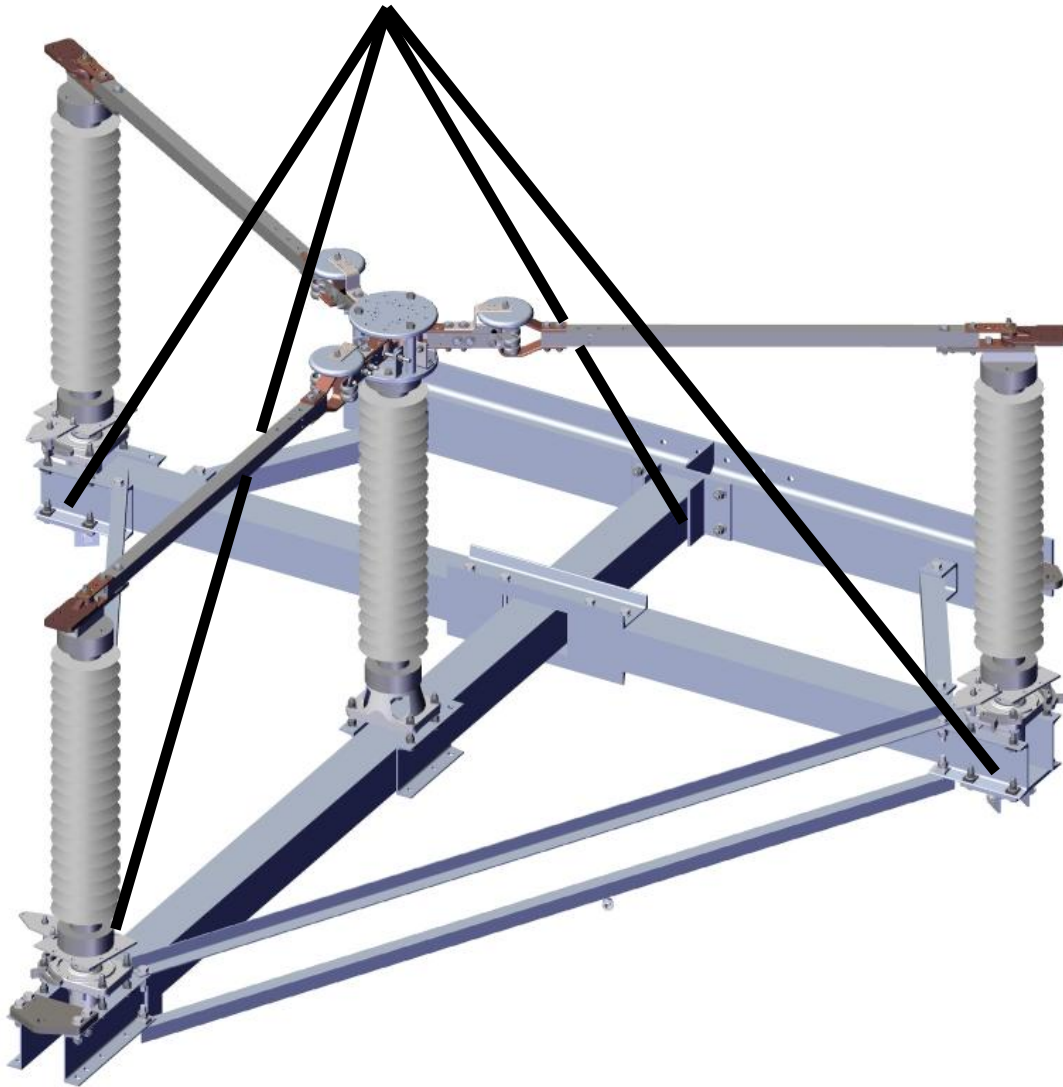

Figure 19: Lifting Strap Locations
- 4) **Lift the assembled switch by the switch base only.** Refer to Figure 19.